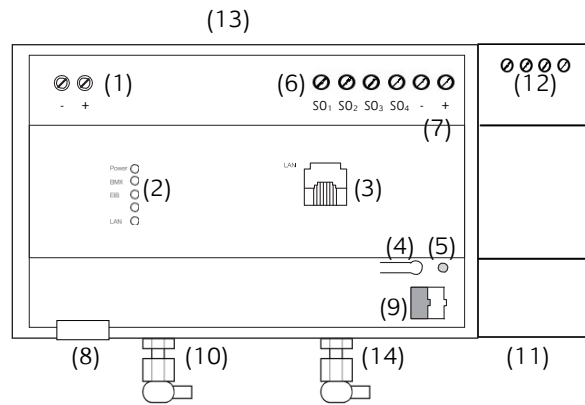

Figure 1: Device overview
### Connect device (figure 1)
- For KNX: Connect bus line to bus terminal (figure 1, 9)
- For Powernet: Connect Wire to Powernet Terminal (figure 1, 12)
- For EnOcean: Connect antenna to antenna terminal (figure 1, 10)
- Connect power supply to the screw terminals (figure 1, 1) according to markings. Please consider polarity. The unchoked output of a KNX/EIB power supply can be used as power supply (consider the Power consumption).
- Insert network connector (LAN) in RJ45 socket (figure 1, 3).